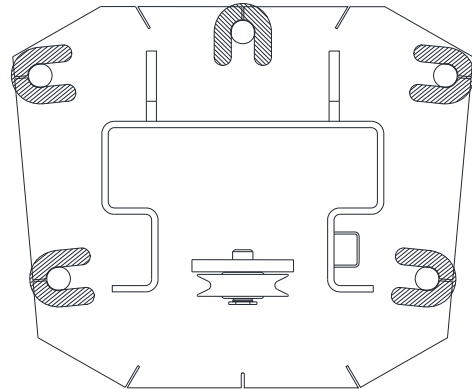

Fig 5 - Column Shimming
- 21) Check Idler Column shimming. Use additional shims (**see Fig 5**) to remove any gaps that may have been created while installing Overhead.